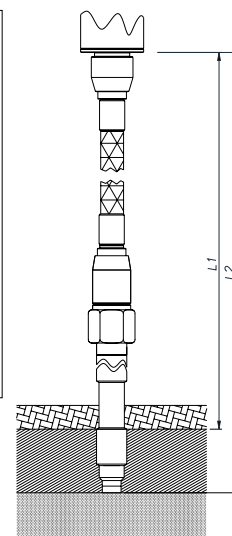

Fig. 1
(*) with the level (L) in fig. 1, the table sets the minimum distance that the electrical circuit has to maintain from the block at high temperature.